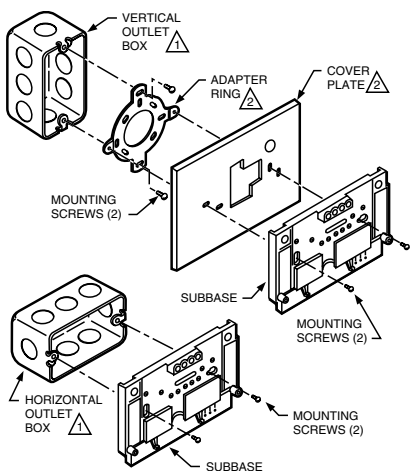

Fig. 1. Installation of subbase on outlet box.
1. If you must mount the subbase on a vertical outlet box, order Honeywell 193121A Adapter Assembly. See Fig. 1. The assembly includes an adapter ring, two screws and a cover plate to cover marks on the wall. Install the ring and cover plate on the vertical outlet box.